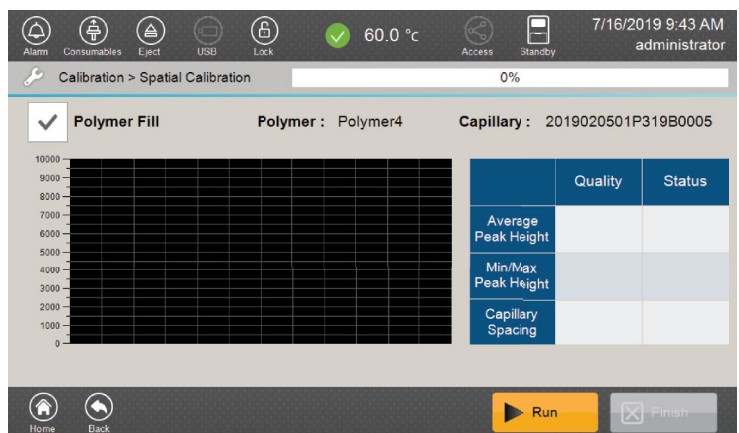
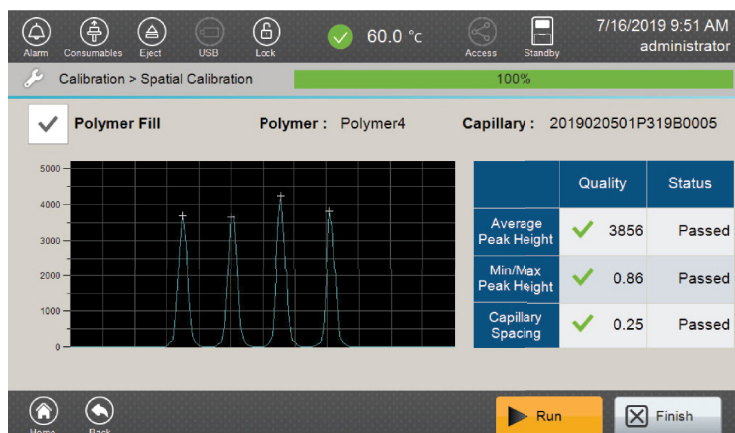

Figure 45. 'Spatial Calibration' screen.
Figure 46. Completed 'Spatial Calibration' screen.
- On the 'Spatial Calibration' screen (Figure 45), check the **Polymer Fill** box if the capillary cartridge needs to be filled with polymer prior to performing spatial calibration.
- Select **Run** at the bottom of the 'Spatial Calibration' screen (Figure 45) to start the spatial calibration run. During the calibration, an image of the spatial peaks for each capillary will be displayed. The progress bar below the header will show the run progress and reach 100% when the spatial calibration is complete (Figure 46).
Review the completed 'Spatial Calibration' screen (Figure 46).